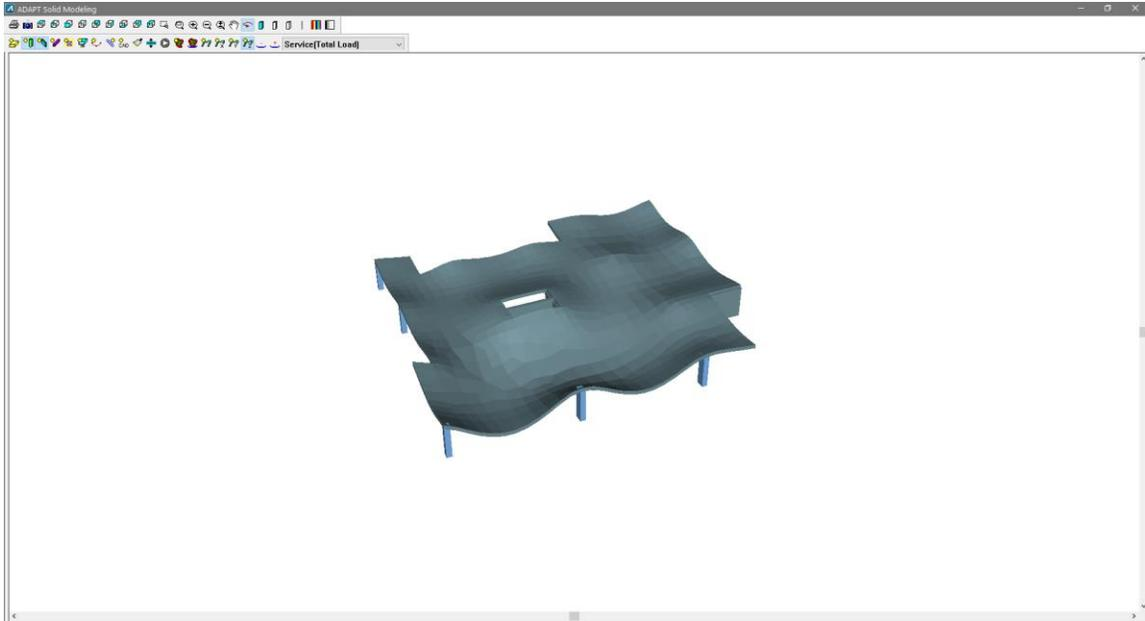

Figure 3-12
- Click on the *Solid Modeling Z-deflection Contour*  icon. The user should now see the model in a solid view showing the deflected shape in the Z-direction of all components as shown in **FIGURE 3-12**.